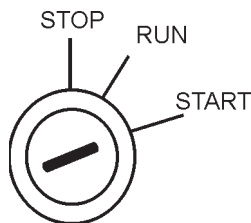

Figure 46. Ignition Switch (Start Position)
6. Turn the ignition key to the **START** position (Figure 46). Once the engine starts, release the ignition key and allow it to return to the **RUN** position (Figure 45). If the engine fails to start after 10 seconds, wait approximately 30 seconds and repeat steps 5-6.